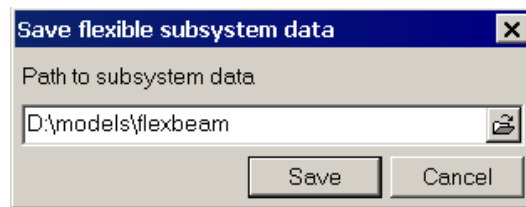

Figure 2.12
13. Click the **Save as** button. In the dialog set **Path to subsystem data** and click the **Save** button, see Fig. 2.12. Please, note, that the latter directory will further serve as a subsystem name.